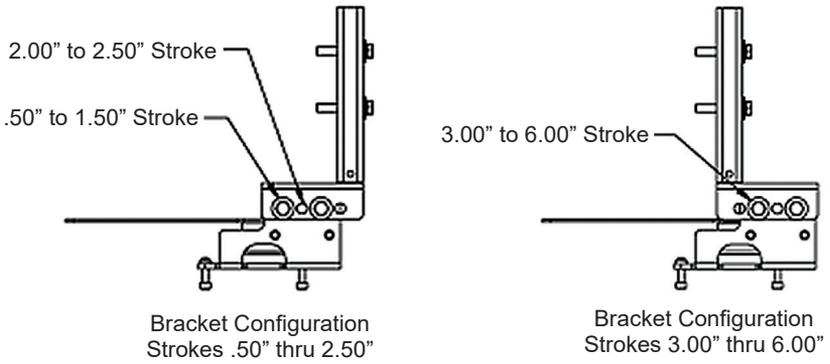

Figure 20 - Bracket Configuration Strokes .50" - 2.50" and 3.00" - 6.00"
4. Mount take-off bracket to stem block at angle which keeps turnbuckle assembly parallel to stem (Figure 20) using: